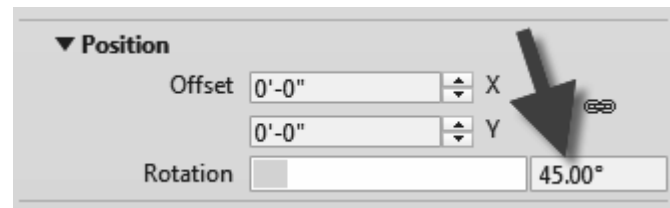

FIGURE 4-4.13 Rotate texture 45 degrees
46. Adjust the rotation of the *Appearance Asset* to **45** degrees; click **Edit...** in both the *Ceramic* and *Relief Pattern* sections (Figure 4-4.13).